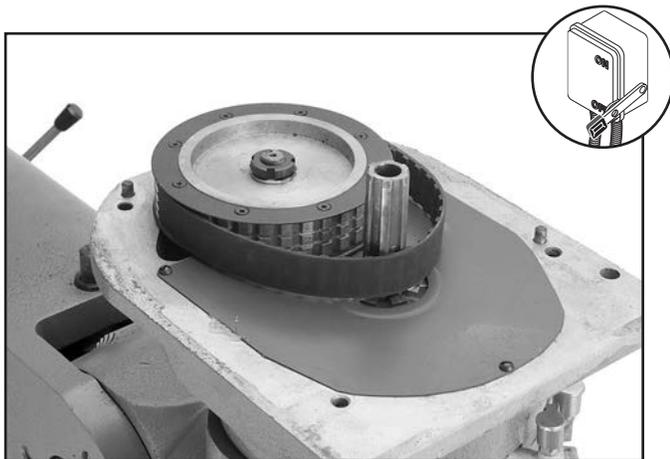

Figure 81. Ribbed timing belt.
15. Place a new ribbed timing belt around the pulley (see **Figure 81**), then slide the lower transmission cover into place.